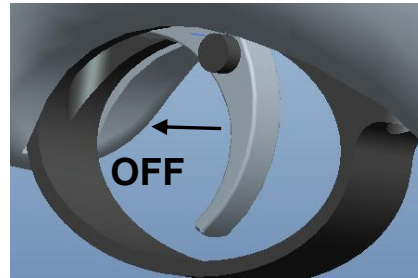

Fig 2
- ❖ To set the safety to “OFF”, push out the safety, see the arrow direction in Fig 2. In this position, the gun is ready to shoot.
- ❖ Put the air rifle ‘ON SAFE” (see Fig 2)